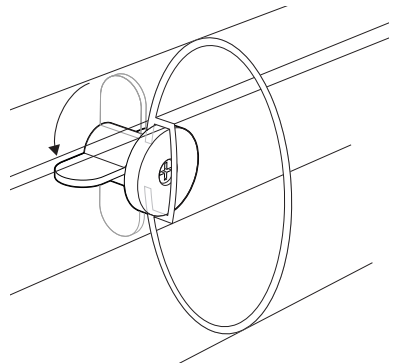

Fig 5.
5. Once the Cam-locks are in the channel properly, turn the Cam-locks 1/4-turn to secure the antenna. Do not turn these more than necessary to lock into the antenna and secure it snugly. See Fig 5.